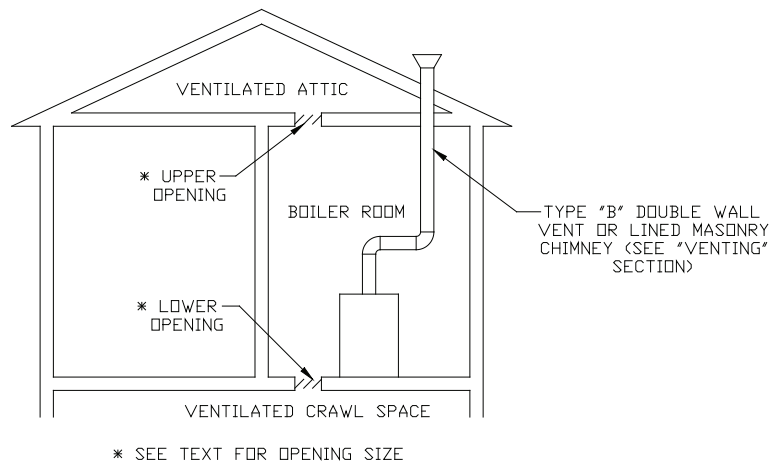
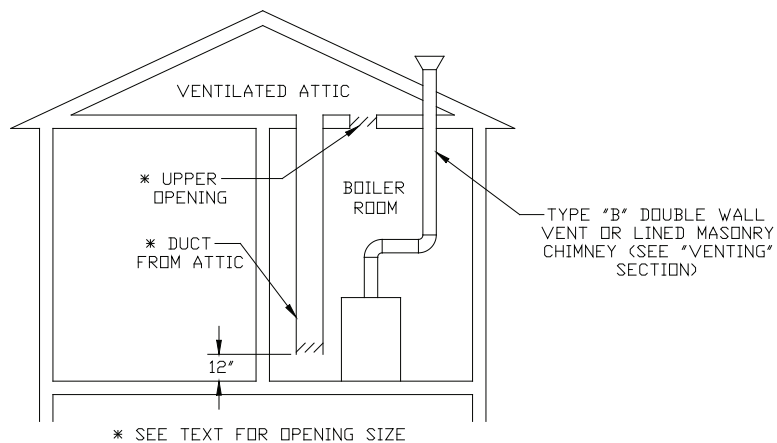
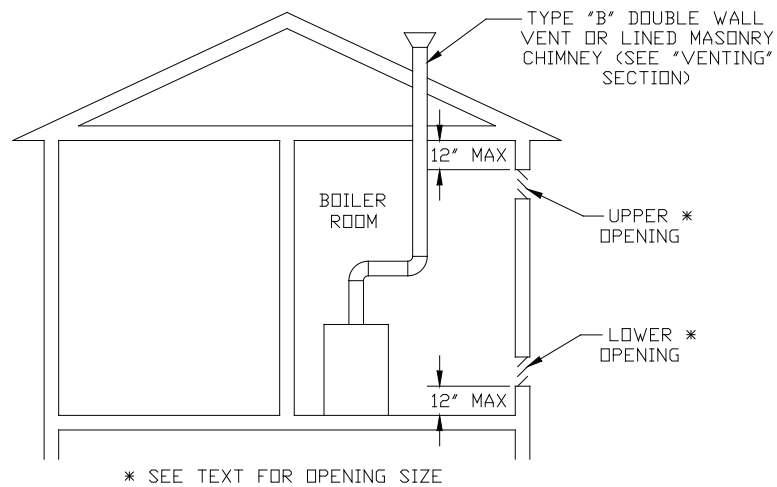

FIGURE 5.2: ALL AIR FROM OUTDOORS, VENTILATED CRAWL SPACE AND ATTIC
FIGURE 5.3: ALL AIR FROM OUTDOORS, VIA VENTILATED ATTIC
FIGURE 5.4: OUTDOOR COMBUSTION AIR METHOD: USING OPENINGS INTO BOILER ROOM
- Vertical ducts or openings directly outdoors (Figure 5.2, Figure 5.3, and Figure 5.4) - Each opening must have a free cross sectional area of 1 square inch per 4000 BTU/hr of the total input of all gas-fired appliances in the boiler room. Minimum opening size is 3 inches.